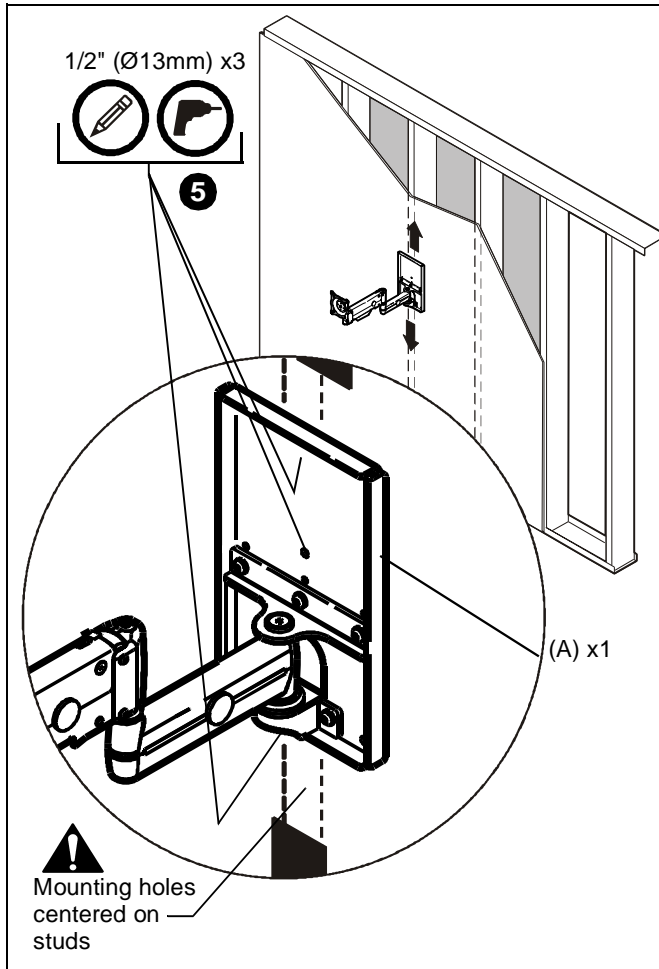

Figure 2
5. Drill three 1/2" (Ø13mm) holes. (See Figure 2)